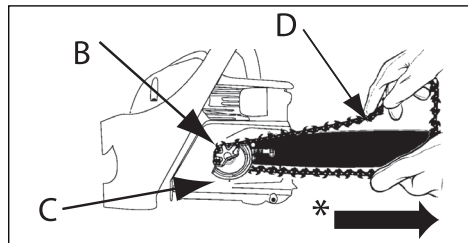

Fig. 4B
2. Slip the chain around the sprocket (B) behind the clutch (C). Make sure the links fit between the sprocket teeth (Fig. 4B).
3. Guide the drive links into the groove (D) and around the end of the bar (Fig. 4B).
4. Pull guide bar forward until chain is snug (fig. 4B*). Ensure all drive links are in the bar groove.
5. Install the clutch cover making sure the tang is positioned in the lower hole in the guide bar. Make sure the chain does not slip off of the bar. Install the bar retaining nut hand tight and the chain break cover screw (H) and follow tension adjustment instructions in Section Saw Chain Tension Adjustment. Make sure when refitting that the chain break is disengaged.